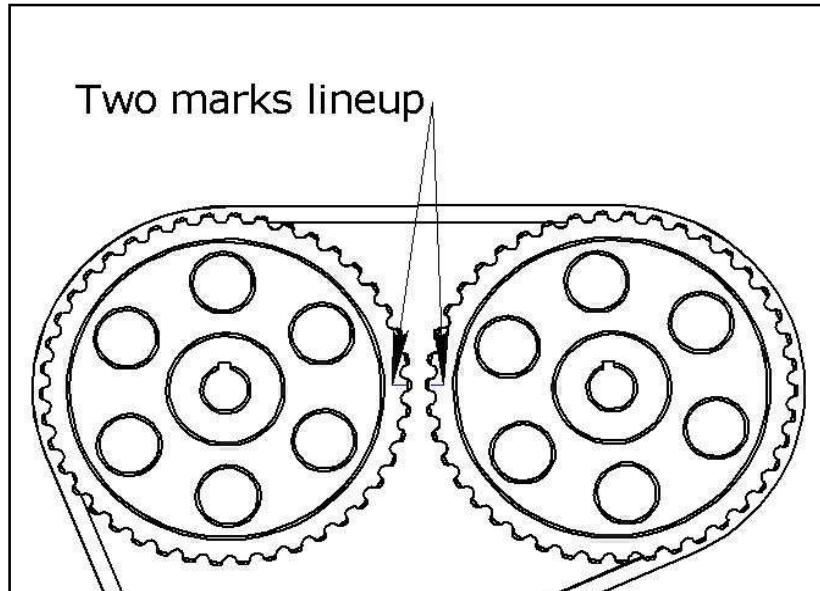

Figure 2.1. Camshafts Aligned at TDC Position
2. Rotate the crankshaft **CLOCKWISE ONLY** to **TDC** (Top Dead Center) position (i.e. #1 cylinder firing position), Figs. 2.1 and 2.2. Review OPEL's guidelines on how to locate and lock the crankshaft and camshafts position at TDC.
- ◆ Check the **TDC** alignment of the crankshaft and the camshafts, (Fig. 2.1 and 2.2). If the alignment of all the sprockets are within the guidelines, the installation is complete.